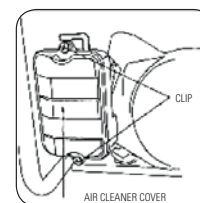

FIGURE 9.2
- A.** Release the clamps and remove the filter lid and then remove the filtering element. Figure 9.2.